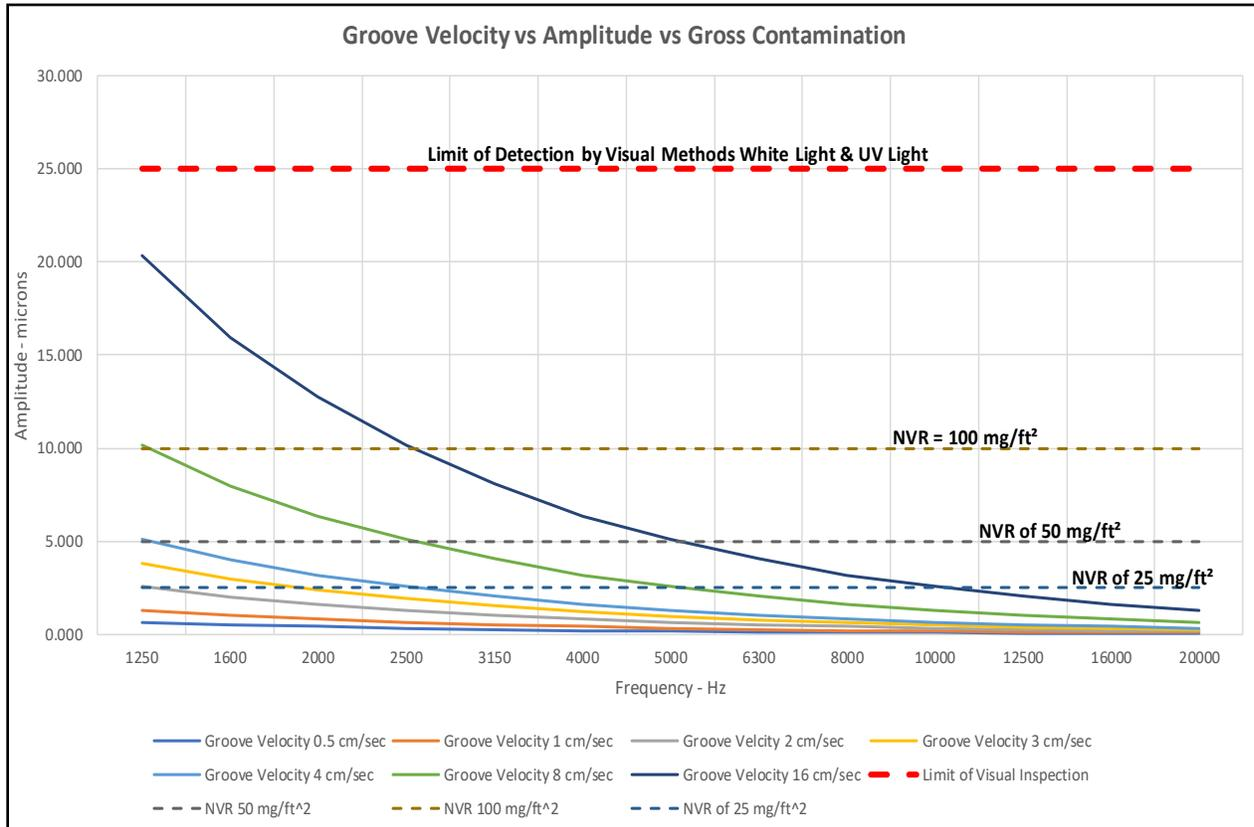

Figure 45 – Groove Velocity vs Amplitude vs Gross Contamination
XI.5 **Figure 45** graphs **Table XVIII** (except 0.1 cm/sec) and adds 8-cm/sec (18 dB) and 16 cm/sec (24 dB) groove velocity. It shows while anything below 25 microns will not be visible, gross contamination of 50 and 100 mg/ft² that develops a 5.0-to-10-micron film thickness is enough to fill-in most of the high frequency (>1000 Hz) side wall ridges (amplitude) and partially fill the groove. The 5.0 to 10 microns film thickness is an extreme amount of NVR that may be associated with an “exceptionally dirty” record. Smaller film thicknesses especially if associated with hard mineral residue from tap-water is unlikely to be uniform so should be audible as transient noise (clicks, pops, etc.,) and can cause accelerated wear of the record and the stylus. Softer residue such as surfactants can be uniform and can be displaced into the side wall ridges and effect or reduce the recorded surface amplitude which is alluded to in the paper *Record Contamination: Causes and Cure by Percy Wilson, 1965 (62)* when it discusses in generalities loss of high-notes by some contaminants that can also foul the stylus.